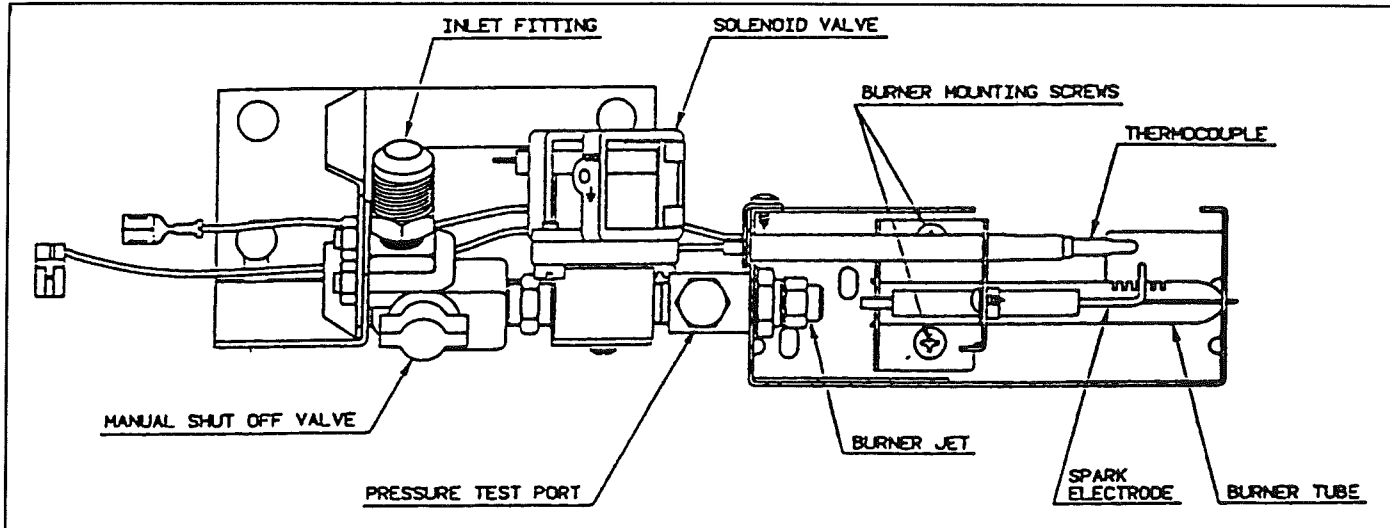

Figure 10
- D. The LP gas pressure should be checked and the main regulator re-adjusted if pressure is incorrect. The correct operating pressure is 11 inches of water column. The correct place to take the LP gas pressure is at the test port just ahead of the burner jet. (See FIG. 10).
6. Remove the burner mounting screws and remove the burner assembly. (See FIG. 10).